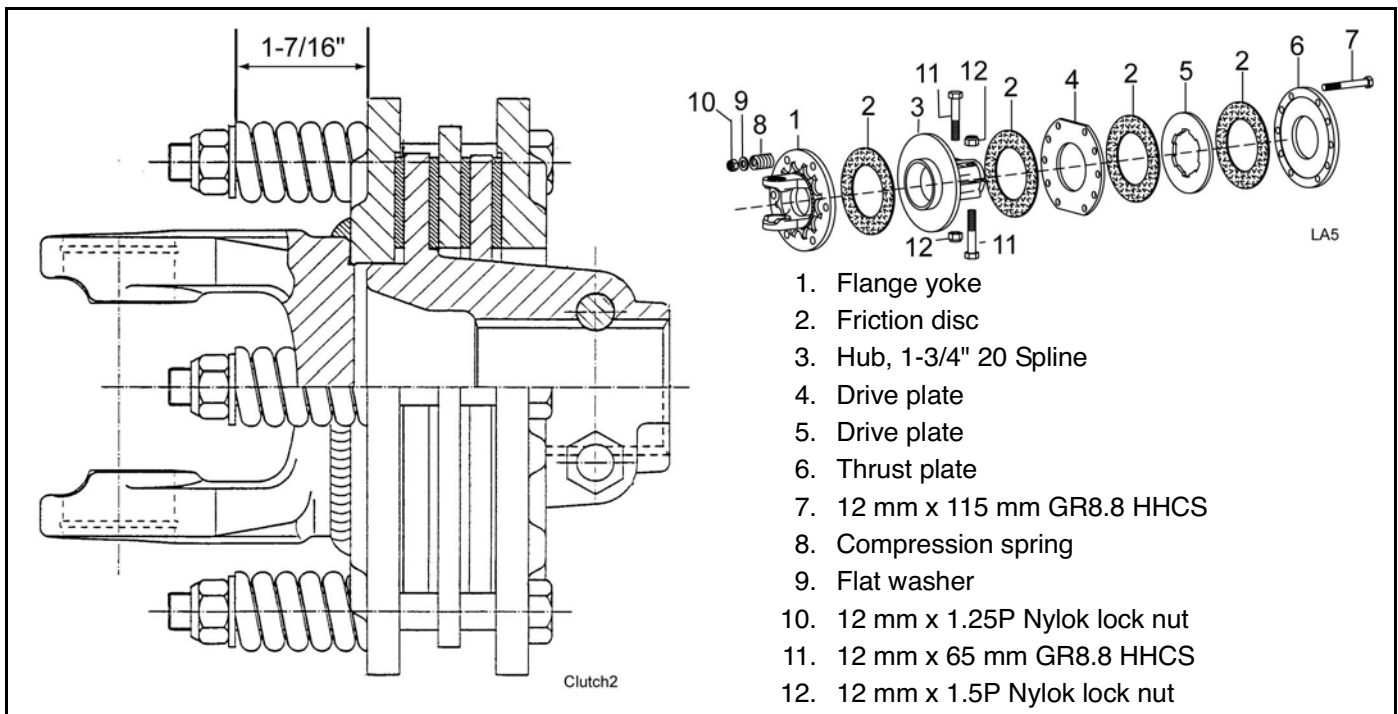

Figure 15. Slip Clutch Assembly BB840XP S/N 1127328 & Below & BB840XQ (All 1000 RPM Models)
BB840XP S/N 1127328 & Below (Figure 15)
3. Loosen six 12 mm cap screws (7) to remove all tension from the compression springs (8).
4. Hold clutch hub (3) solid and turn shaft to make sure clutch slips.
5. If clutch does not slip freely, disassemble and clean the flange yoke (1), clutch hub (3), drive plate (4), drive plate (5), and thrust plate faces (6).
7. Compress each of the six compression springs (8) by tightening the six cap screws (7) and lock nuts (10). The compression springs should be
compressed to a height of 1-7/16", not including washer (9). The minimum spring height is 1.36". See Figure 15.
8. If a clutch continues to slip when the springs are compressed to 1.36", check friction discs (2) for excessive wear. Discs are 1/8" when new. Replace discs after 1/16" wear.